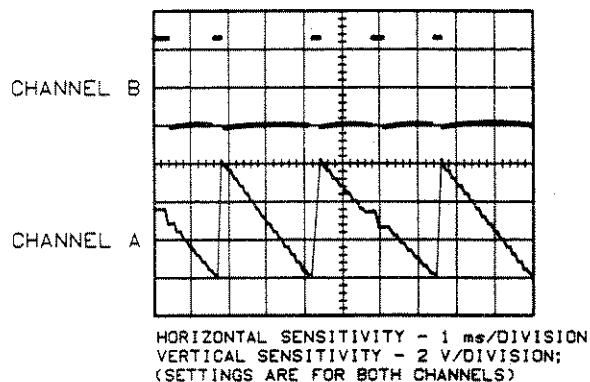

Figure 8-75. X-AXIS (Bottom) and Z-AXIS (Top) Drive Signals
- Turn on the Noise Figure Meter. Adjust the oscilloscope horizontal and vertical positions and verify that the X-Axis and Z-Axis drive signals are as shown in Figure 8-75.